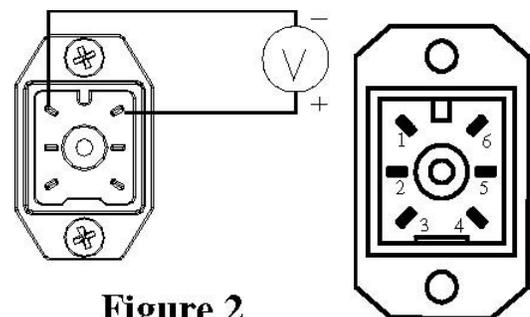

Figure 2
3. Connect 24 VDC positive to pin #6 and DC Common to pin #1 (refer to Figure 2).